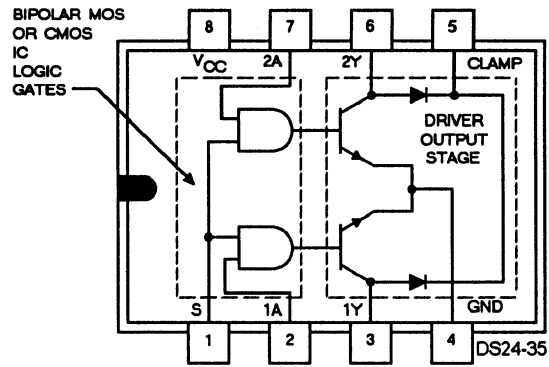

Figure 4-35.—Example of a peripheral driver IC.
- Peripheral drivers —Peripheral drivers receive an input from bipolar or MOS logic gate output and drive the output stage so that relatively large output currents can be controlled with low-level logic signals. Peripheral drivers use a single input and output application. They are very useful for driving indicator lamps or drive relays. See figure 4-35.